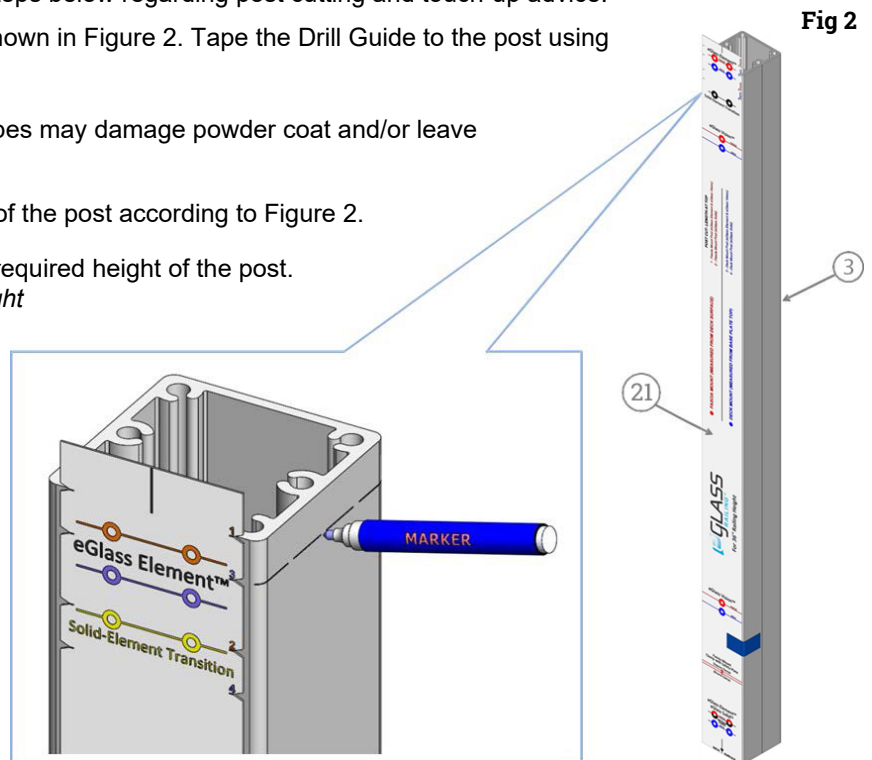

Fig 2
- Select a post blank (3) and identify the post type. If the post is for an inline run, select the appropriate Drill Guide (22) and follow the steps below. If the post is for a stair run, reference your Customer Detail Form instead to determine final cut height, then follow the steps below regarding post cutting and touch-up advice.
- Place the Drill Guide (21) on the post, as shown in Figure 2. Tape the Drill Guide to the post using painter's tape.
- Only use the Drill Guide on the scribe side of the post according to Figure 2.